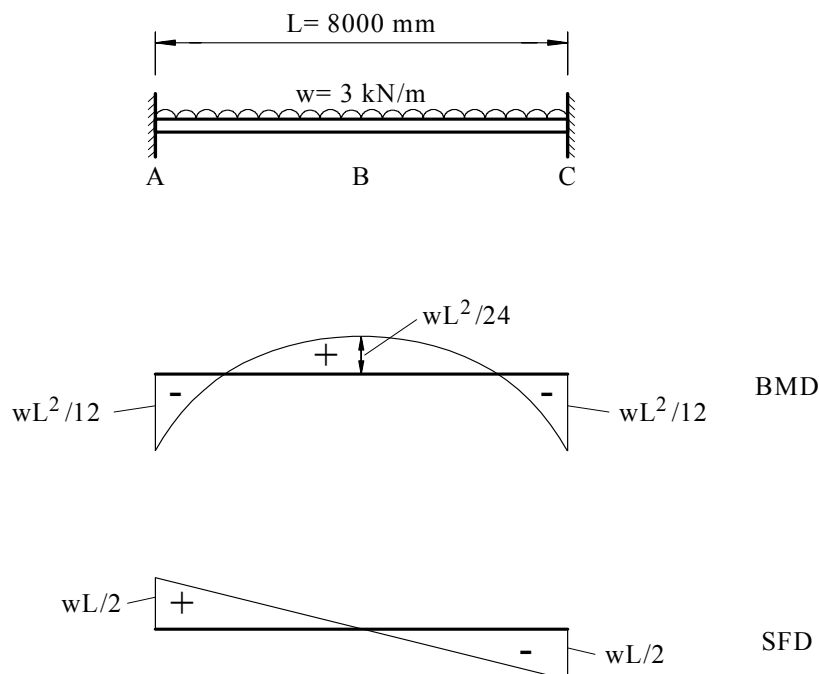

Figure 2
- b) A beam ABC is built in at both ends and subjected to a distributed load  $w = 3.0 \text{ kN/m}$  applied downwards to the top flange. The top flange is fully restrained along its entire length. The Bending Moment Diagram (BMD) and Shear Force Diagram (SFD) are as shown in Figure 2. The beam is being bent about the  $x$ -axis.